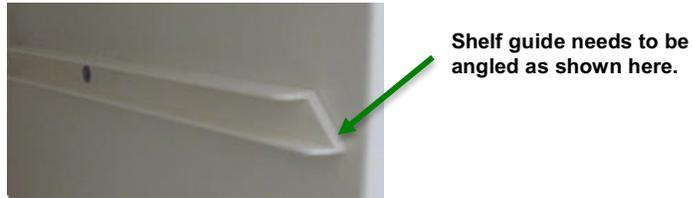

Figure 5 – Shelf guide orientation
1. Place the shelf guide where desired, making sure that you have the guide oriented as shown in Figure 5.